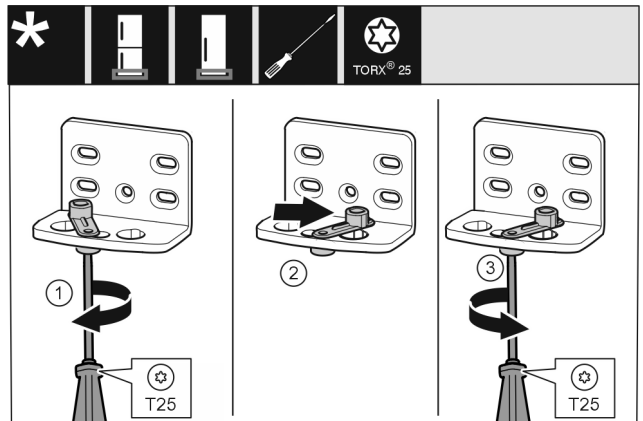

Fig. 9
- ▶ Loosen the screw using a T25 screwdriver. Fig. 9 (1)
- ▶ Lift the door closing aid and turn it 90° to the right in the hole. Fig. 9 (2)
- ▶ Tighten the screw using a T25 screwdriver. Fig. 9 (3)